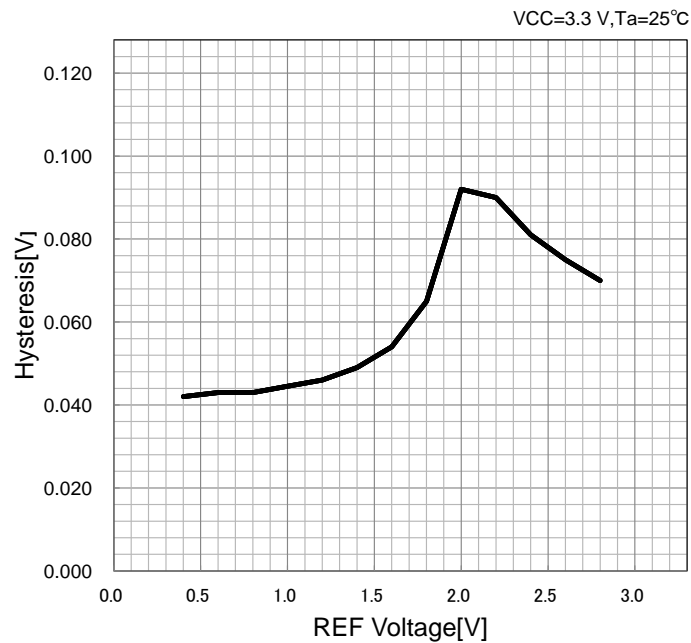

Figure 31-1 Comparator Hysteresis
(1) Figure 31-1 shows the hysteresis characteristics.